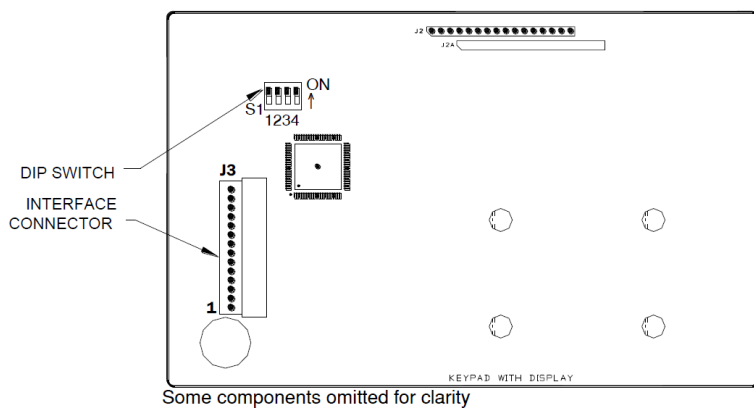

Figure 1: DM-21 Hardware
- Figure 1 illustrates the DM-21 intrusion display hardware. on page 2
Figure 1 illustrates the DM-21 intrusion display hardware.